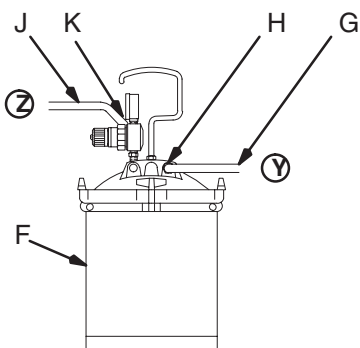

Fig. 1
- Circled letters in Fig. 1 indicate hose line connections.
1. Connect gun air supply hose (A) between turbine air outlet (B) and gun air inlet (C). DO NOT use wrench to tighten connections; hand tighten only. See Fig. 1.
2. If using a spray gun cup (D):